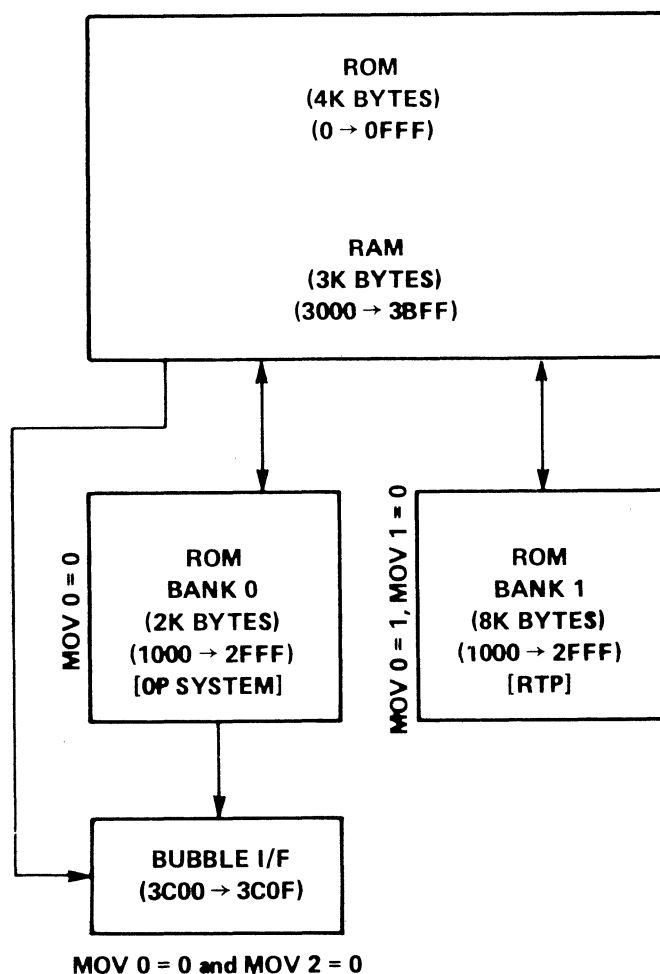
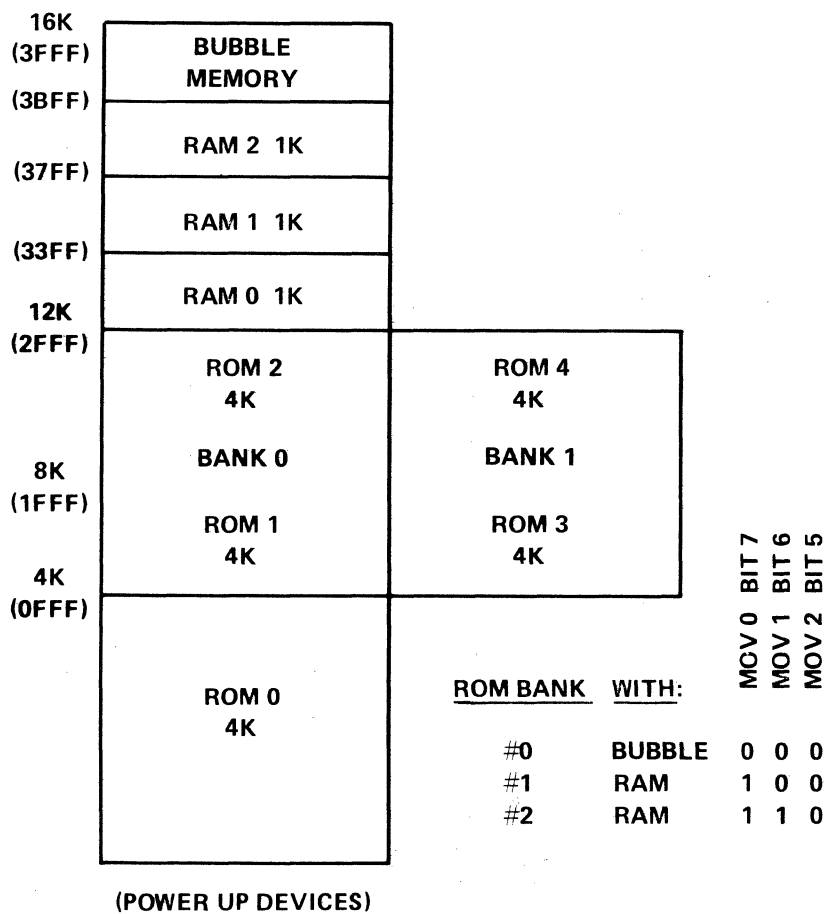

Figure 4-8. Memory Organization
Figure 4-9. Memory Structure
4.4.2 MEMORY ORGANIZATION. The terminal has 20K bytes of read only memory, 3K bytes of random access memory and from 22K to 91K bytes of bubble memory. The main processor can only address a maximum of 16K bytes of memory so a memory mapping scheme is required. Quite simply, it is the responsibility of the main processor to rearrange the existing memory through CRU addressing before accessing a memory location. The 4K ROM that is always in the system is designated as ROM 0. There are two additional 8K ROM sections designated ROM BANK0 and ROM BANK1. Figure 4-8 shows memory organization. It is possible to bring ROM BANK0 or BANK1 into the system through use of CRU signals. These same CRU address bits also control selection of the memory modules. Figure 4-9 shows the memory structure of the terminal.